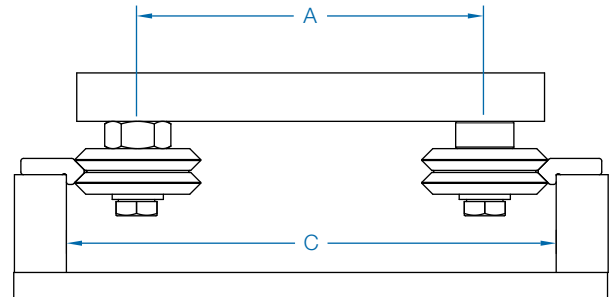

Figure 3 Outboard Mounting
- Outboard Mounting (See Figure 3): $A = C - X$